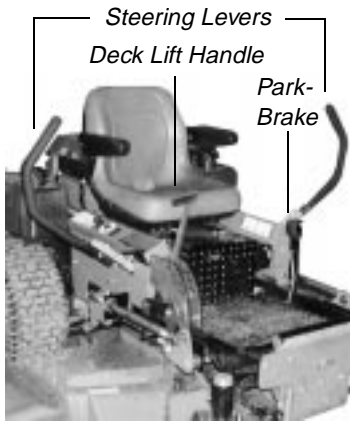

Figure. 3
3. **Left and Right Steering Levers:** (See Figure 3.) These hinged levers open out to the side in the neutral position to permit the operator to be seated or to leave the mower's seat. The operator, when seated, can pull the levers up to the operating position, a comfortable forearm's length away. These levers control all of the movements of the mower. Pushing both levers forward causes the mower to move forward. Pulling both levers back causes the mower to move backward. Pushing one lever ahead of the other lever causes the traction wheel on the side where the lever is ahead to rotate faster than the other traction wheel, making the mower turn toward the side where the lever is behind. When one lever is pushed forward and the other lever pulled back the same amount, one traction wheel will turn in reverse and the mower will turn within its own length.
5. **Parking Brake:** (See Figure 3.) Located on the left side of the traction unit. The handle is an overcenter lever which applies the drum-type brake on each drive wheel when the handle is pulled to the rear. The brake must be engaged in order to start the engine.
6. **Deck Lift Handle and Foot Pedal Lift Assist:** (See Figure 3.) Located on the right front corner of the mowing deck. Raise the mowing deck to the transport position, by pulling the lever to the rear and moving it inward into the stop for transport. To lower the mowing deck, pull the deck lift handle and move it outward. This lowers the deck to the cutting position. The foot pedal lift assist (not pictured above) can provide “lift assist” to the hand lever or with “foot effort only”. To provide assistance to the lift handle: remove the detent pin from the pedal assembly. Fold the pedal down to the horizontal position so the hole in the pedal aligns with the hole in the lever. Re-install the detent pin. Pull on the Lift handle and depress the foot pedal to raise the deck. Lifting with “foot effort only” depress the foot pedal (the hand lever will lock into transport position if fully depressed). To release the lift mechanism depress the foot pedal, move the hand lever outward and slowly reduce foot pedal effort to lower the mechanism. To service the unit: Remove the detent pin from the